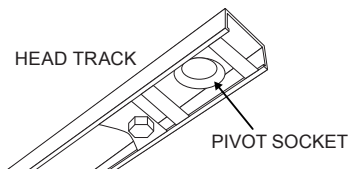

Figure 3
**3** Ensure track is the correct length for the opening. In four door applications, the two pieces of track must be cut to equal lengths and meet to form one continuous length. Screw track to head (making sure head is level) with the centre line above the intended centre of the door when closed. Track should be firmly against jamb at pivot end towards which the doors open. (Figure 3)